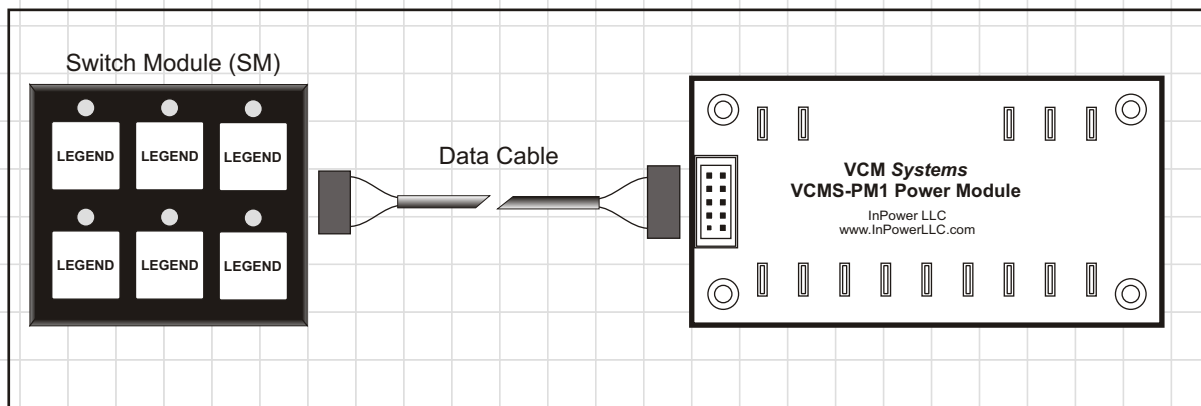

Figure 1
A simple VCM-S system configuration is shown in Figure 1. The system consists of a Switch Module (SM) connected to a Power Module (PM) via a 4-wire communications logic cable. The SM contains six
the first two outputs on power module #2. The operation is essentially the same as the system shown on Figure 1, but expanded. With this expandable system architecture a wide variety of configurations are available to meet customers' needs.